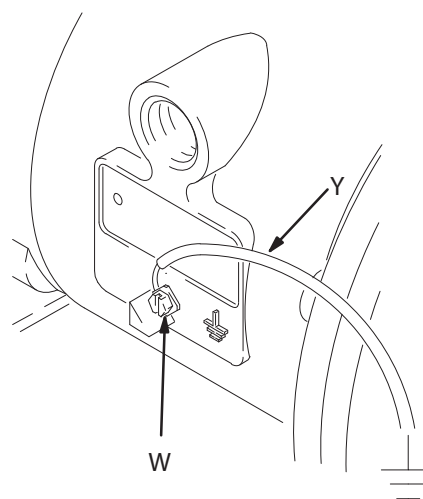

Fig. 1
Polypropylene and PVDF are *not* conductive. Attaching the ground wire to the grounding lug only grounds the air motor. When pumping conductive flammable fluids, *always* ground the entire fluid system by making sure the fluid has an electrical path to a true earth ground. See Fig. 1.
- **Pump:** Connect a ground wire and clamp as shown in Fig. 1. Loosen the grounding screw (W). Insert one end of a 12 ga (1.5 mm2) minimum ground wire (Y) behind the grounding screw and tighten the screw securely. Connect the clamp end of the ground wire to a true earth ground. Order Part No. 237569 Ground Wire and Clamp.